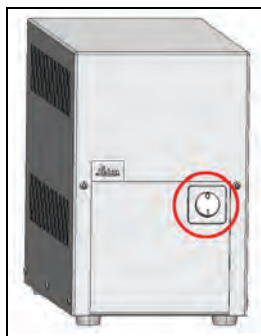
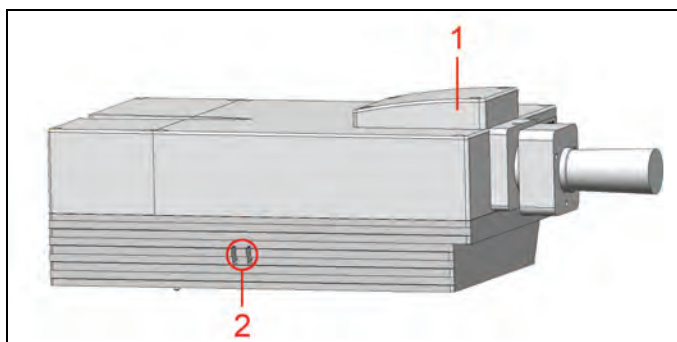

Figure 80: HyD RLD supply unit
Figure 81: HyD Reflected Light Detectors (HyD RLDs)
2. If you are using a HyD RLD, switch it on at its supply unit (see **Figure 80**). You can find additional information on the HyD RLD in **Chapter 13.3**.
- The filter cube cover (see **Figure 81, item 1**) ensures the housing's EMC stability and prevents light from entering or exiting.
If you are using HyD RLDs, you have to switch them on before LAS AF starts. Otherwise, the LAS AF software cannot initialize the detectors. The HyD RLDs consist of a supply unit (see **Figure 80**) and a detector module (see **Figure 81**).
The power switch for switching on and off the power supply and the cooling for the detector module is located on the front side of the supply unit (see **Figure 80**).
For image acquisition, activate the detectors in LAS AF. The yellow status LED (see **Figure 81, item 2**) flashes if photons are being detected.
Status LED color (see Figure 81, item 2)	Meaning